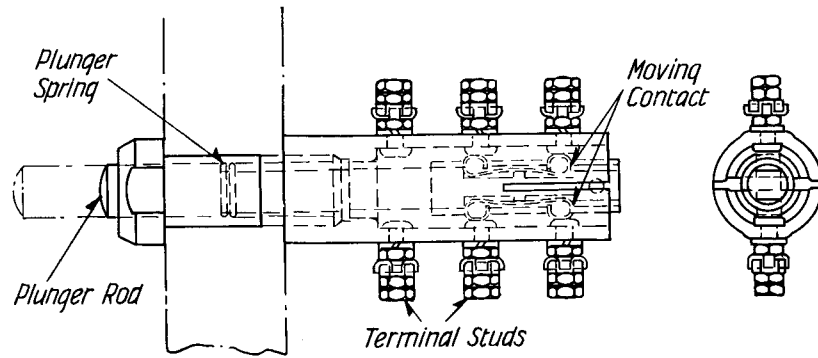

FIG. 19—2P., D.T. AUXILIARY SWITCH
**Auxiliary Switches (Figures 19 and 20)**—Auxiliary switches are used for signal lamp purposes, shunt trip cut-outs, electrical interlocking and similar applications. They may be S.P.D.T. and D.P.D.T. and are mounted as a rule directly under the circuit-breaker brush. A push rod extending through the panel operates the switch when the circuit-breaker is open or closed.